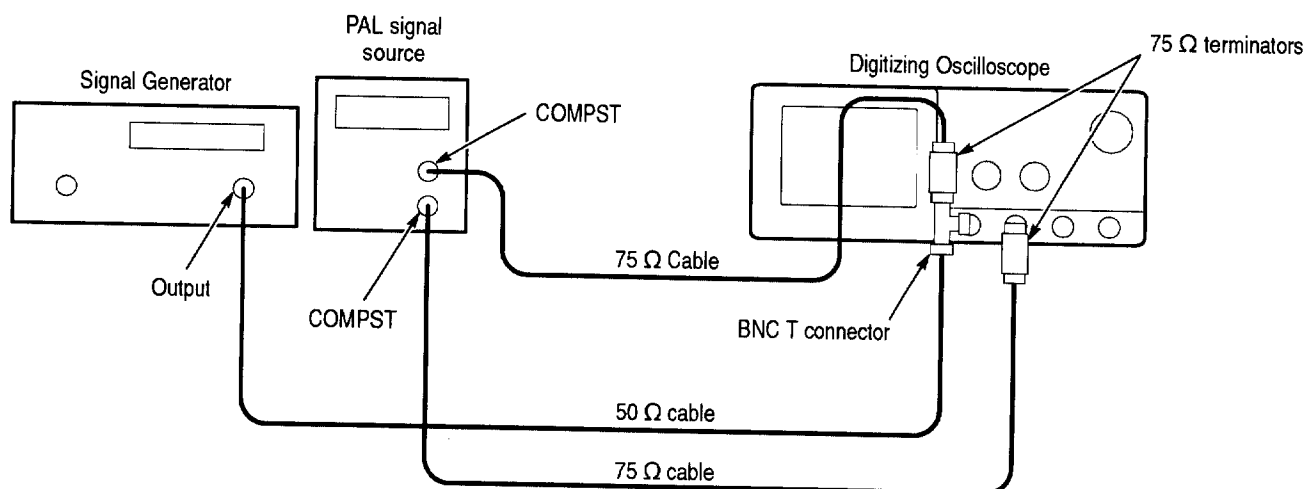

Figure 1–33: Subsequent 60 Hz Rejection test hookup
- Reconnect the output of the signal generator. Connect the composite signal connector of the PAL signal source (labeled **COMPST** on the TSG 121) to a 75  $\Omega$  cable and a 75  $\Omega$  terminator. Connect both signals to the CH1 input through a BNC T. See Figure 1–33.
- Connect another composite signal connector of the PAL signal source (labeled **COMPST** on the TSG 121) through a 75  $\Omega$  cable and a 75  $\Omega$  terminator to the CH2 input. See Figure 1–33.
- **CONFIRM** that the **TRIG'D** LED stays lighted and that the waveform on screen is stable. In other words, be sure the waveform does not move horizontally or vertically. Also, confirm that the waveform on the screen has one positive pulse and a number of negative pulses. See Figure 1–34.